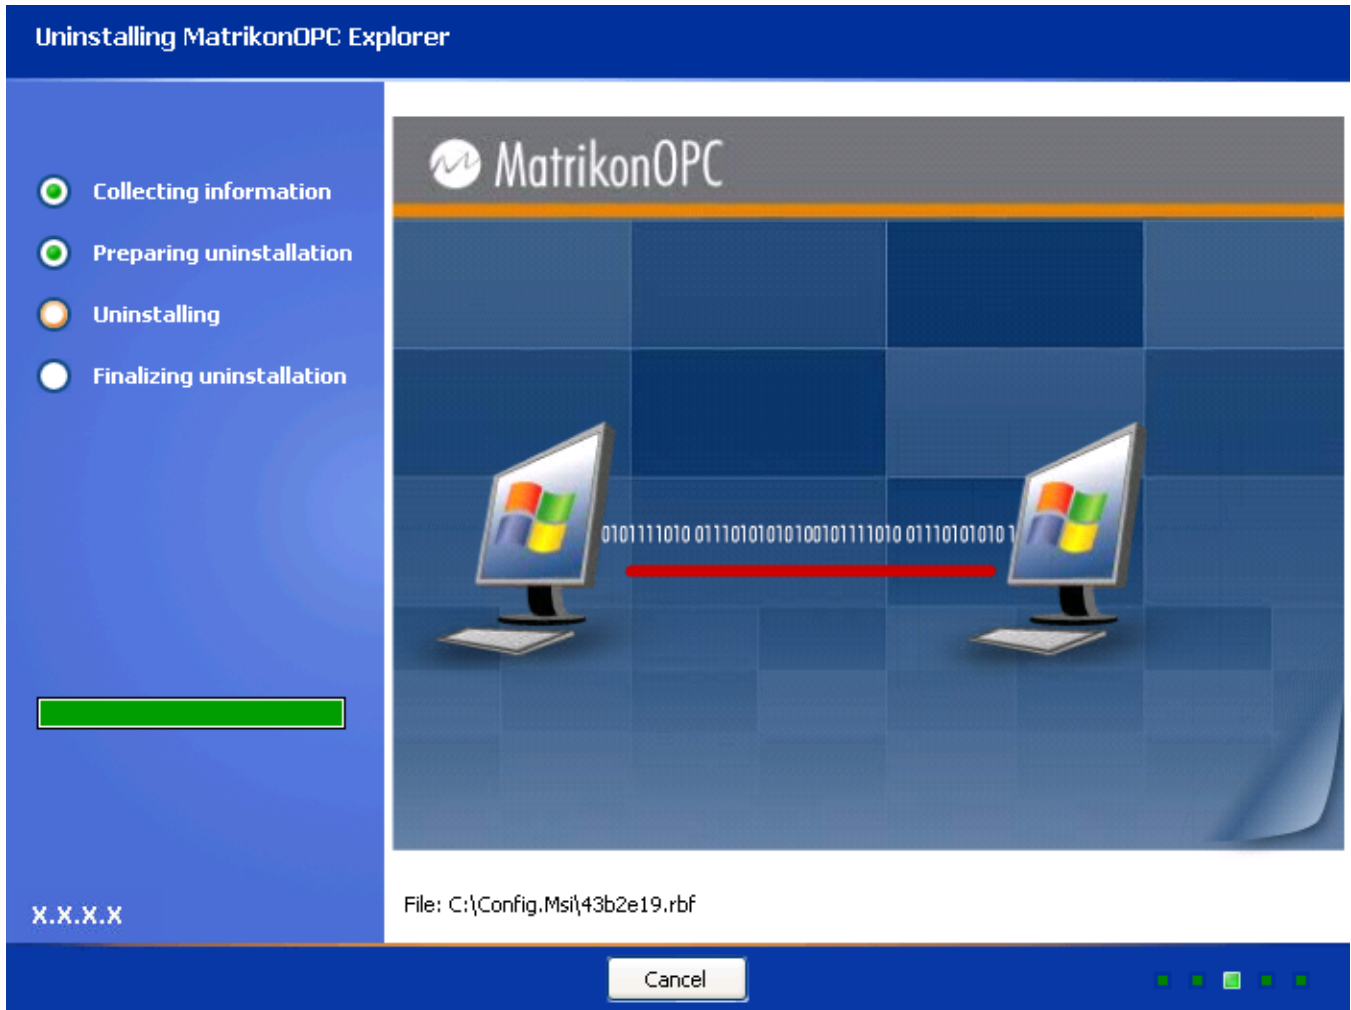

Figure 39 - Uninstalling MatrikonOPC Explorer Screen
10. The **Uninstalling MatrikonOPC Explorer** screen (Figure 39) appears and the un-install takes place.